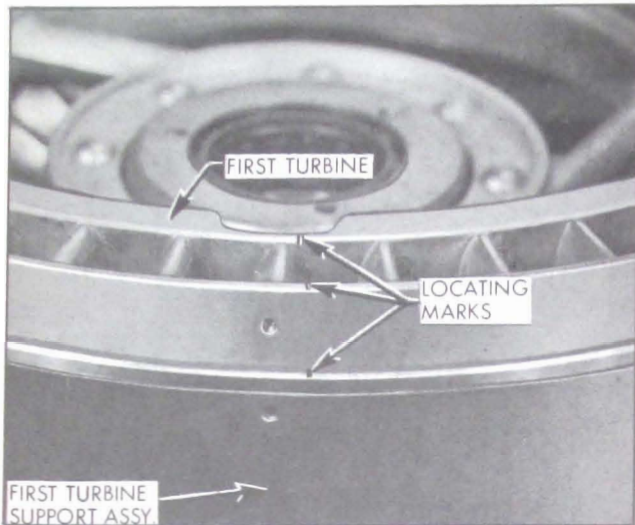

Figure 5-66—Positioning First Turbine on First Turbine Support
14. Place first turbine in position on turbine support paying particular attention that the turbine is assembled in its original position as the turbine and support are balanced as an assembly. See Figure 5-66.